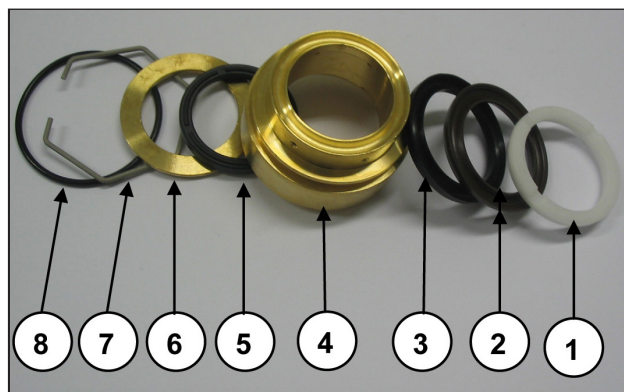

Fig. 44
Pay attention to the order of seal pack disassembly as indicated in Fig. 44 composed of:
- Lubricate ②③⑤ components (Fig. 44) with OCILIS silicone grease code 12001600. This operation is also deemed necessary to facilitate adjustment of the lip seal on the piston.